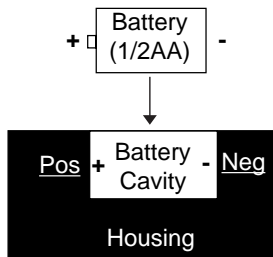

Fig. 76 - Battery Orientation
- Place a new 3.6 volt TADIRAN[®], model TL-2150, .95Ah, 1.0ma, Lithium battery, negative end first into the battery compartment toward the spring, ensuring proper orientation of the positive (+) and negative (-) ends (Fig. 76).